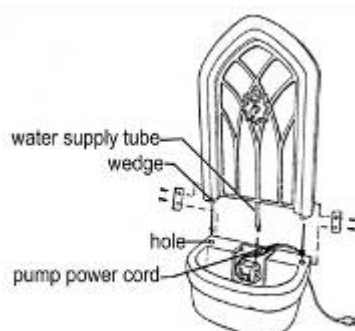

Fig.2
4. Place the basin on a flat, level surface and then place the pump into the pump housing of the basin. Align the two wedges on the underside of the top fountain with the two holes on top of the basin and then place the top fountain onto the basin. Note: Draw the pump power cord out through the cord slot at the back of the basin and then insert the water supply tube into the notch. From the back of the fountain use the connector brackets and two screws and washers to secure the top fountain to the basin. (Fig 2)